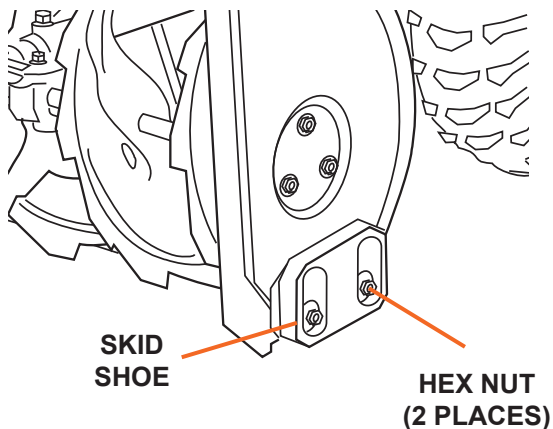

Figure 9
1. Position the skid shoes based on surface conditions. Adjust upward for hard-packed snow. Adjust downward when operating on gravel or crushed rock surfaces. Loosen the two hex nuts that retain the skid shoe in place and move up or down as desired, then re-tighten the lock nuts (see Figure 9). Repeat for the opposite side of the snow blower.